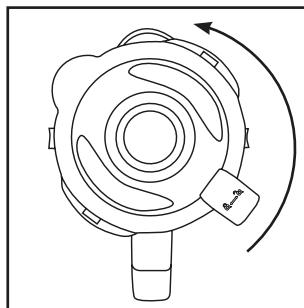
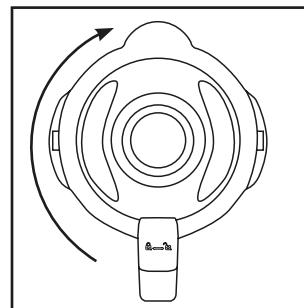

Fig. 1
Fig. 2
- 1) Rotate the blender ③ anticlockwise until the arrow ▼ under the blender handle is located above the □ position. Remove the blender ③ from the motor block ⑥ in a vertical, upward motion.
- 2) Remove the lid ② by rotating it anticlockwise towards position □ (see Fig. 1) until you can pull it upwards.
- 3) Fill the blender ③.
- 4) Press the lid ② firmly down onto the blender ③. Close the lid ② by turning it clockwise to position □ until it audibly engages (see Fig. 2). Ensure that the pouring spout on the blender ③ is closed. The motor cannot start until the lid ② is fitted flush.